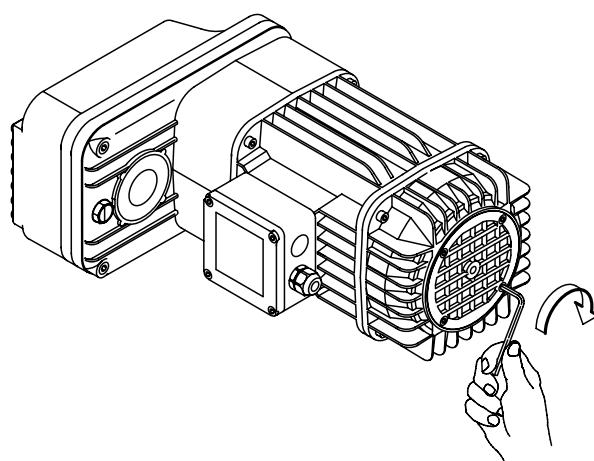

fig. 158
3. Perform running and braking tests, and if necessary repeat the operations outlined above until obtaining the desired braking torque, after having reassembled the vent and securely tightened the Allen screws (fig. 158).